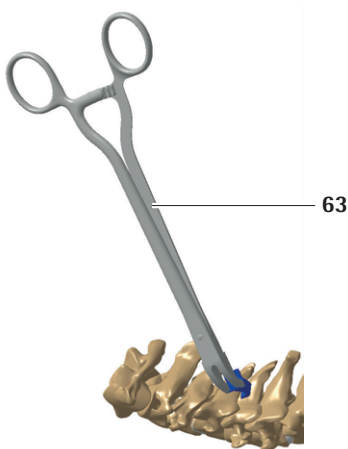

Fig. 42
- ▶ Select the correct lamina hook and position it on the lamina using the hook holding forceps 63, see Fig. 42.